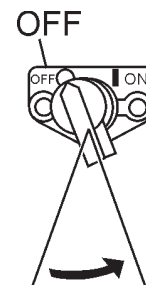

Figure 20. Engine ON/OFF Switch (OFF)
- After the engine **cools**, turn the engine ON/OFF switch to the "OFF" position (Figure 20).